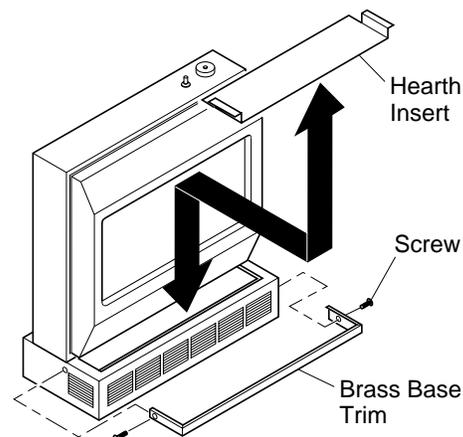

Figure 17- Placing Hearth Insert on Heater Base and Attaching Brass Base Trim
6. Place hearth insert in hearth base as shown in Figure 17.
8. Slide base trim on heater base. Attach brass trim to base with two brass screws included as shown in Figure 17.